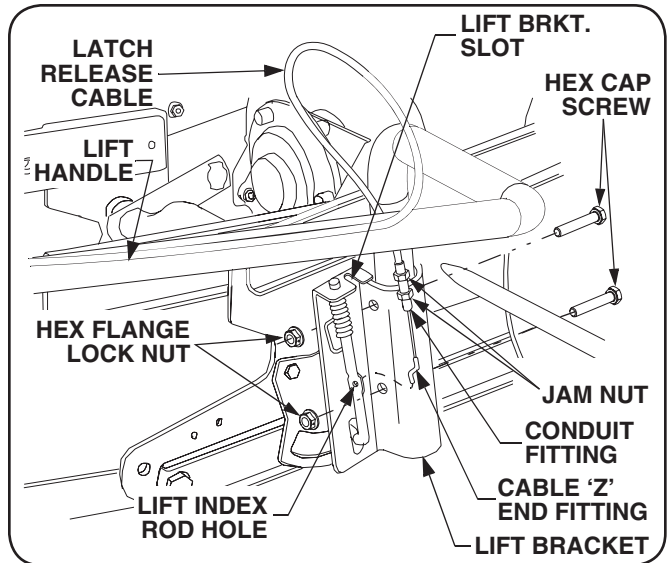

Figure 4-7
- Insert the lower end of the lift handle assembly (C, Fig.1) into the lift bracket located on the right side of the snow thrower subframe. See Figure 4-7.